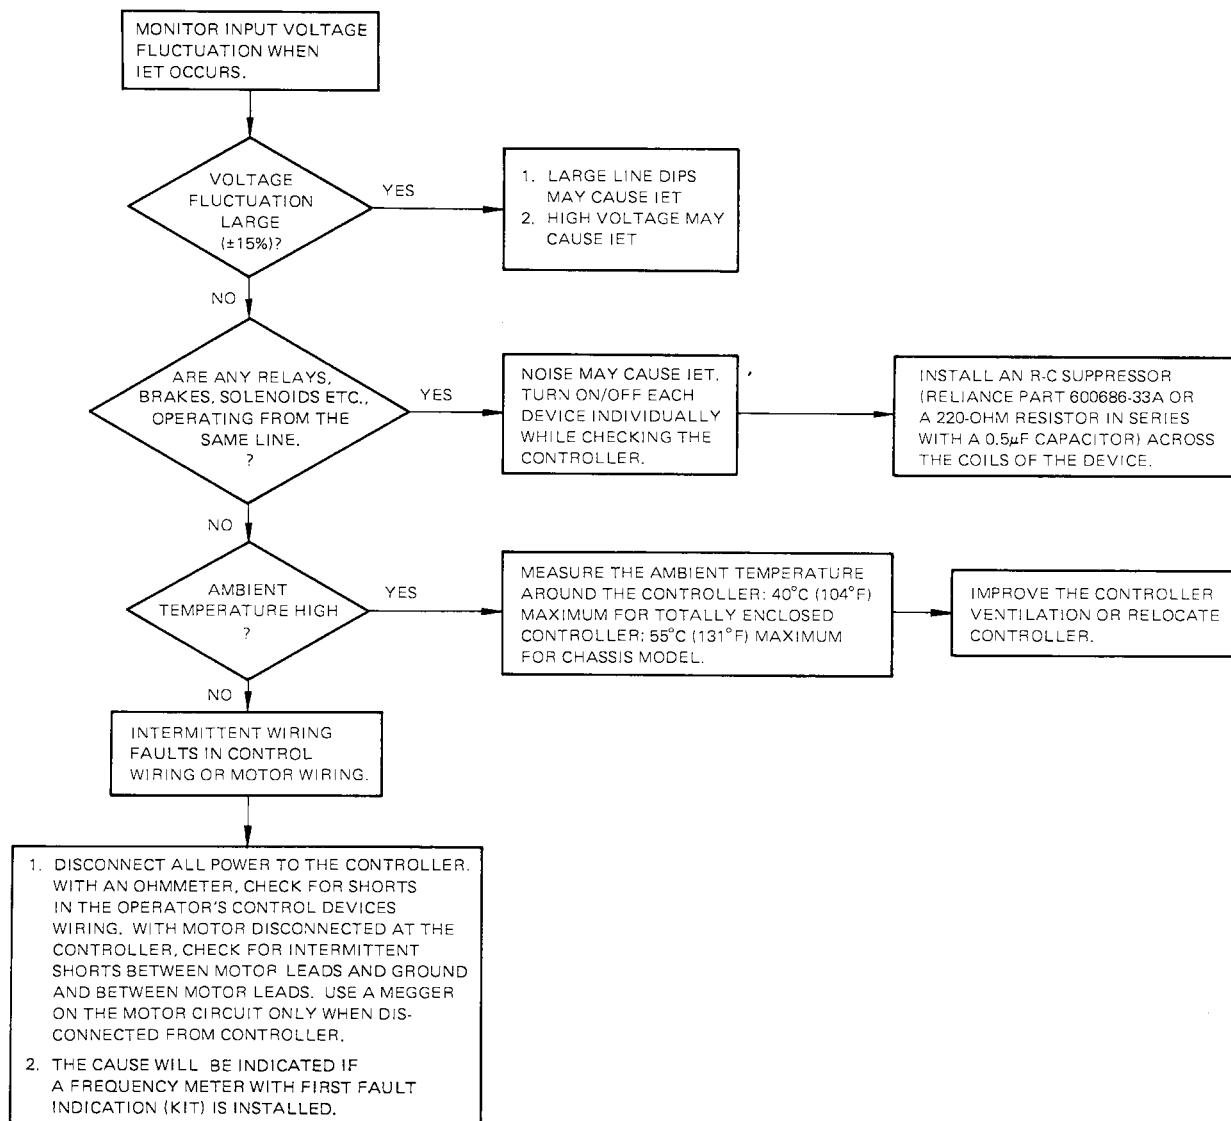

Figure 4-4. Occasional IET while running but can be restarted.
4. Occasional IET while running but can be restarted (**Figure 4-4**).